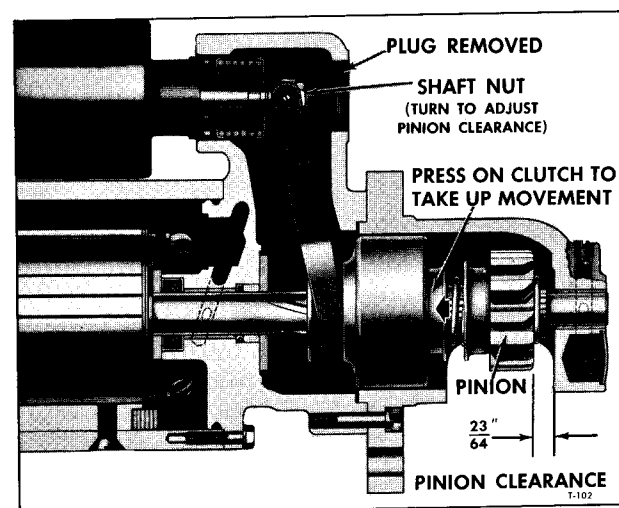

Figure 3—Pinion Clearance Check and Adjustment
4. Push the pinion back toward armature to take up slack, then check clearance between pinion and nose housing (fig. 3).